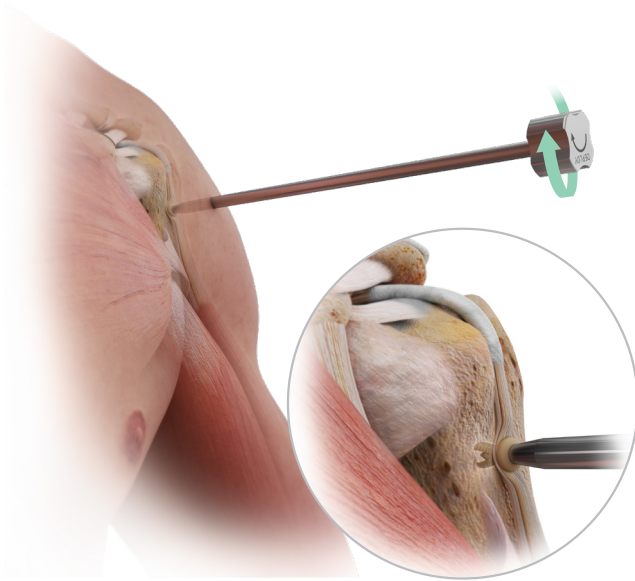

FIGURE 6
- 3 Turn the Inserter Knob clockwise until resistance in the Knob indicates the anchor has been fully deployed (Figure 6).